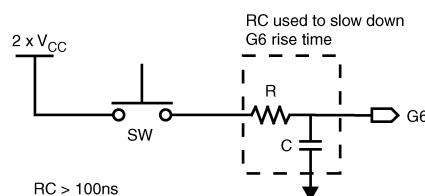

Figure 15. Circuit Diagram for Implementing the $2 \times V_{CC}$
4. After V_{CC} is valid and stable, connect a voltage between $2 \times V_{CC}$ and $V_{CC}+7V$ to the G6 pin. Ensure that the rise time of the high voltage on G6 is slower than the minimum in the Electrical Specifications. Figure 15 shows a possible circuit diagram for implementing the $2 \times V_{CC}$. Be aware of the typical input current on the G6 pin when the high voltage is applied. The resistor used in the RC network, and the high voltage used, should be chosen to keep the high voltage at the G6 pin between $2 \times V_{CC}$ and $V_{CC}+7V$.